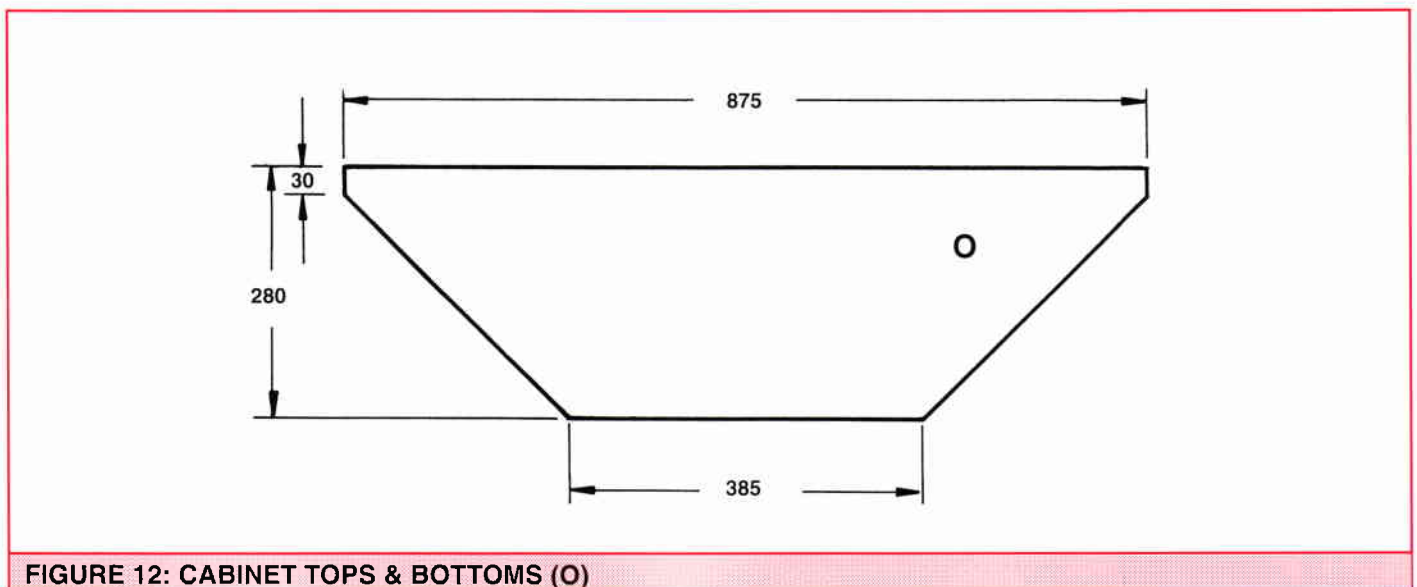

FIGURE 12: CABINET TOPS & BOTTOMS (O)
**13** With the basic cabinet shape now established, the upper cabinet assembly can now be stood over a piece of the veneered material, and the shape of the cabinet tops and bottoms (O) scribed from inside. Figure 12 shows the approximate shape and size; the angle of the sides may differ slightly from 45 degrees, depending how much of the material was removed when the sides were bevelled. Our example was about 43 1/2 degrees.